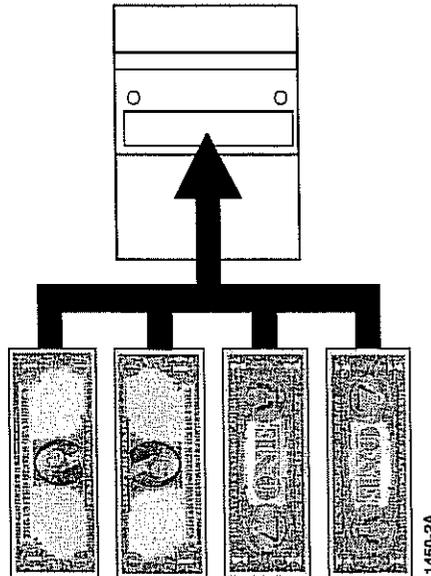

Figure 1-2. Bill Orientation – DBV-45 Only.
- **Bill Acceptance** - The DBV-45 validator accepts a bill either face up or face down (see Figure 1-2 for proper bill orientation). The DBV-145/147 models accept bills face up only. Once inserted, the bill is validated within two seconds, with a minimum acceptance ratio of 90 percent.
**Note:** In newer software versions capable of accepting the old and new style currency (i.e. \$50 and \$100), bills are accepted only face up with the top of the portrait to the right (the second orientation shown in Figure 1-2).